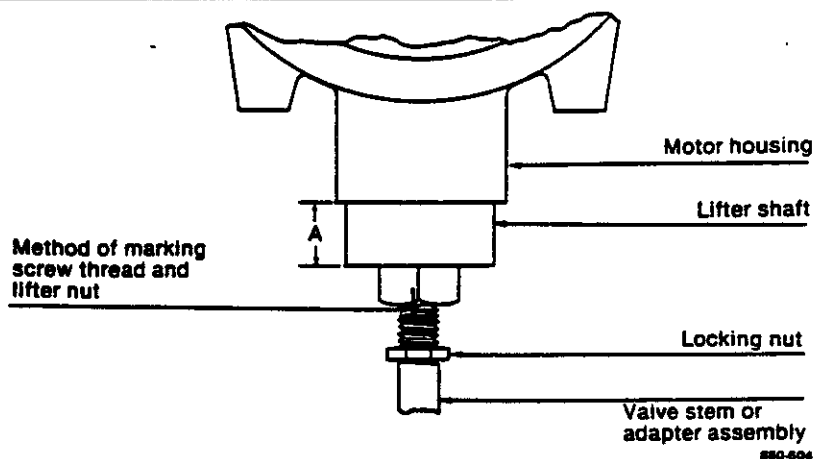

Figure 4—Illustration showing connection of valve stem or adaptor assembly to actionator lifter assembly
These models are shipped with the stroke set for 6.3 mm (0.25 inches) minimum travel and must be adjusted to match the lift of the particular valve used. Table 1 lists lifter travel along with the motor adjustment, Dimension "A", which must be made. For a particular valve stem lift, refer to the lifter travel column of Table 1, noting Dimension "A". This dimension is measured on the motor from the bottom of the motor housing to the bottom of the lifter shaft (Figure 4) when the lifter is at the lower extremity of its downward stroke. Dimension "A" is for single-seated and double-seated, two-way valves and allows a 1.5 mm (0.06 inches) strain relief at the end of the stroke.
4. Using a 1/8 inch Allen wrench, turn the inner adjusting screw in the direction required to adjust Dimension "A" (Figure 4) as needed to provide the lifter travel desired. A scale should be used to measure this adjustment. Clockwise rotation of the adjusting screw will increase Dimension "A" and lengthen the lifter travel. Counterclockwise rotation will decrease Dimension "A" and shorten the lifter travel.
- a. Using a scale, note the measurement of Dimension "A", Figure 4.
should be left turned down on the stem in the position shown in Figure 4 so final adjustments may be made.